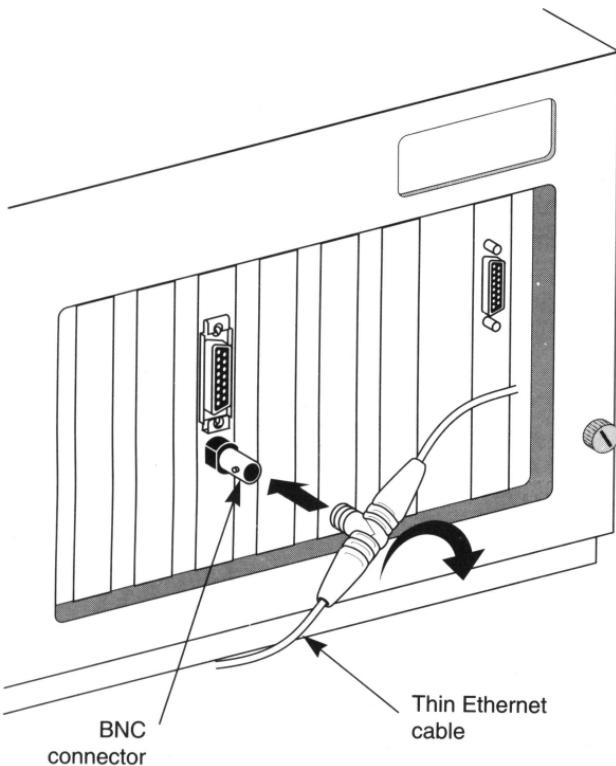

Figure 5-2. Connecting Thin Ethernet Cable
3. Connect the T connector to the adapter's BNC connector (see Figure 5-2).